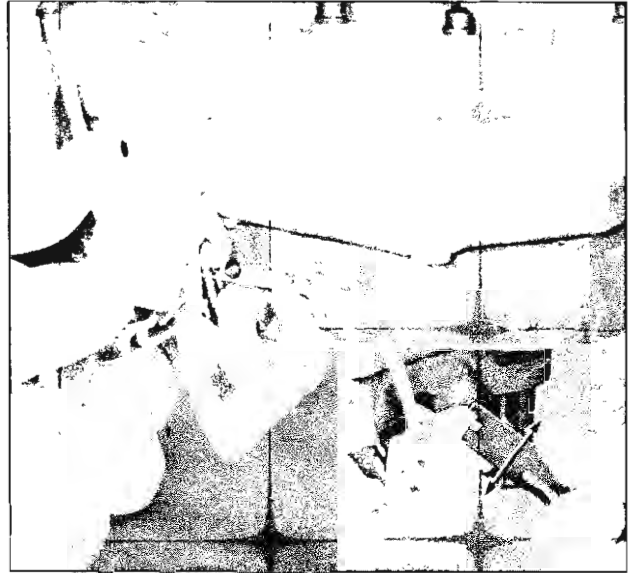

Fig. 63—Secondary Contour Adjustment
4. Open choke valve and open secondary throttle slightly to position lockout lever over fast idle cam, Figure 63.